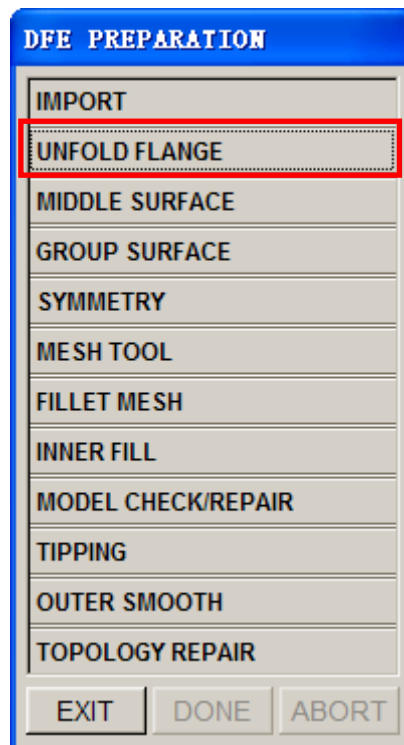

Figure 52 DFE Preparation dialog box
2. Select **Unfold Flange** function in the **DFE Preparation** dialog box, as illustrated in Figure 52.